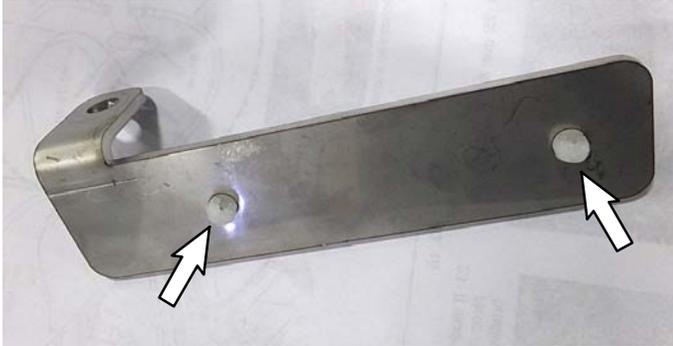

FIG. 22
24. Install two cable-tie clips (20) to shunt bracket (19). (FIG. 22)